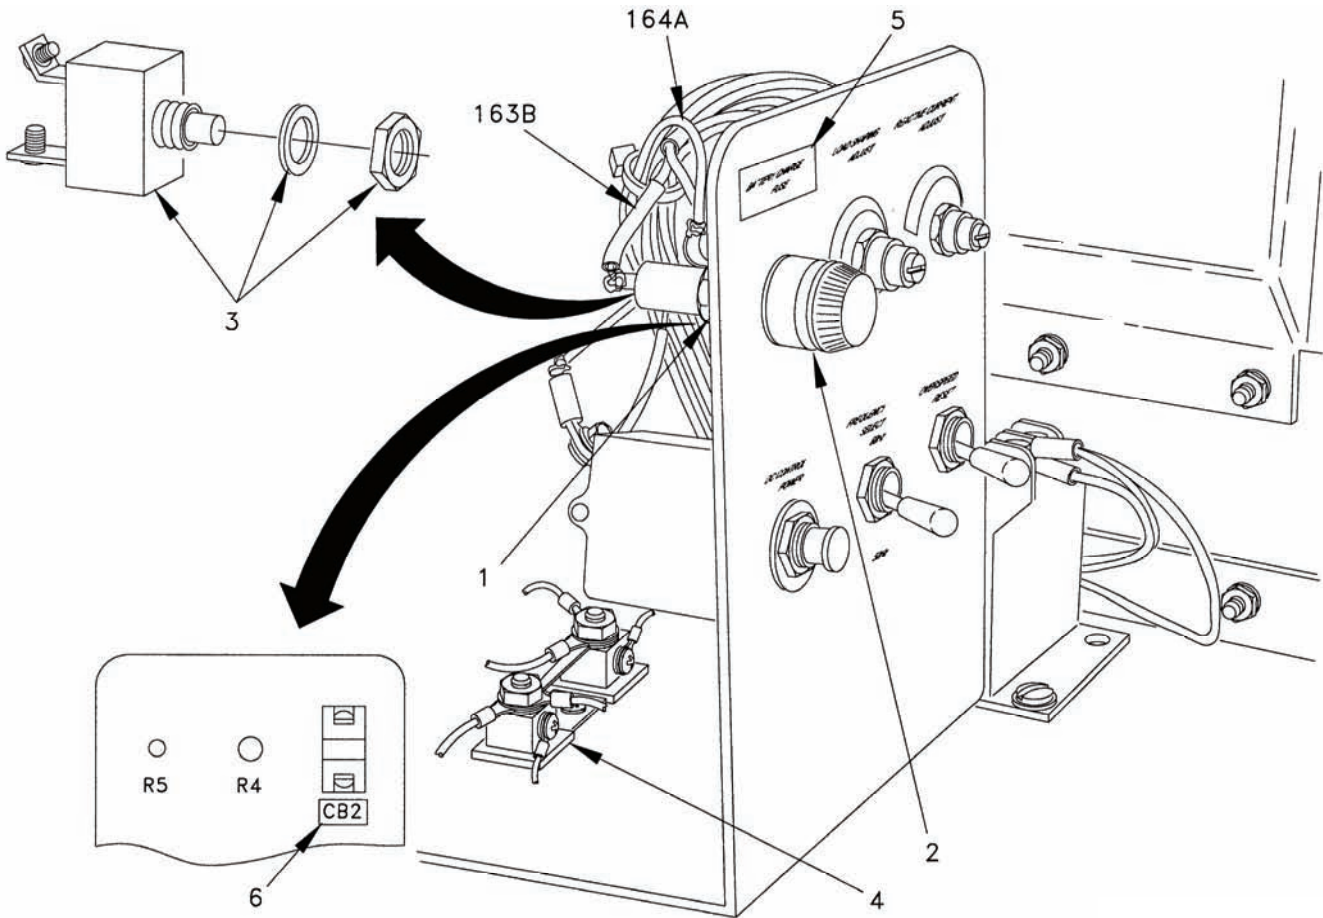

Figure 5-44. Fuse FU1 Replacement with Circuit Breaker CB2.
- e. Tag and cut wires 163B16 and 164A16 from rear of fuse FU1 (Figure 5-44).
- f. Remove nut (1) and fuse FU1 (2).